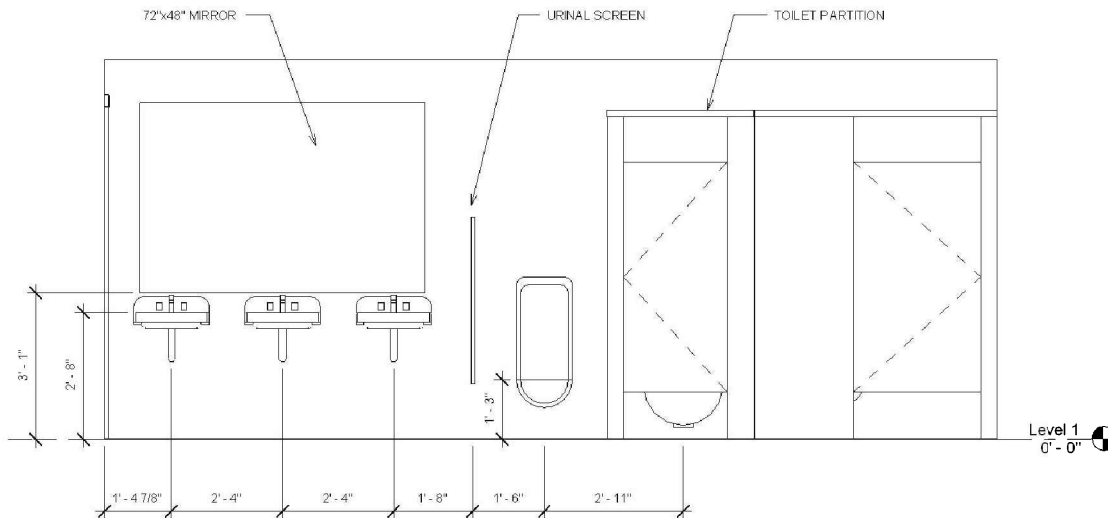

FIGURE 11-1.10 Updated interior elevation
20. While in the interior elevation view, place a **72" x 48" Mirror** on the wall above the sinks. Use the *Align* tool to align the mirror with the middle sink (Figure 11-1.10).
21. Add the notes and dimensions shown in Figure 11-1.10. Adjust the heights and locations of the fixtures/components as required.